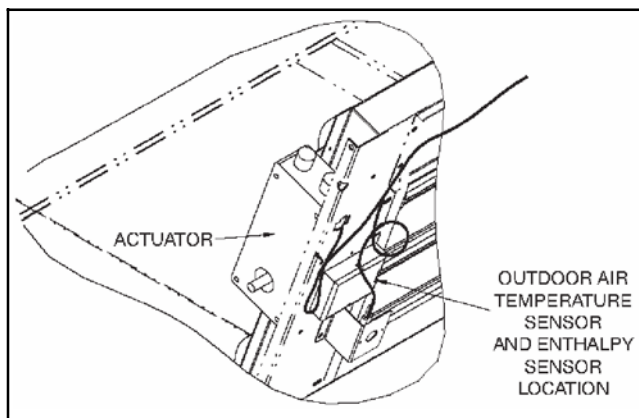

Fig. 4 - Outdoor Air Sensor Location - PAH/PGH210-300 Units
3. Mount the enthalpy sensor in the predrilled holes on the economizer frame (where the enthalpy sensor was removed in Step 2). (See Fig. 4.) Use the screws removed in Step 2.